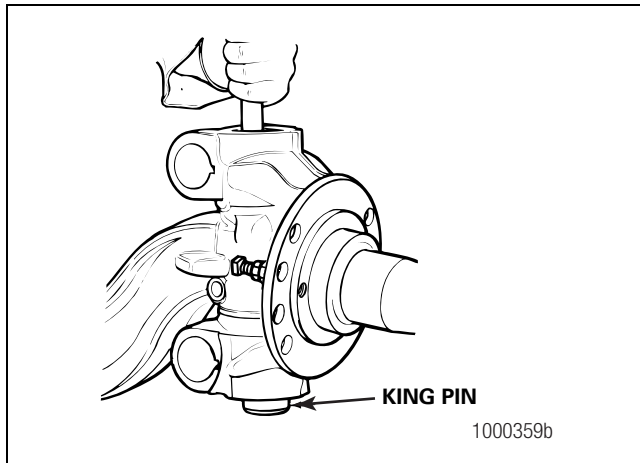

Figure 4.18
- A. Use a brass drift and a hammer to remove the king pins from the knuckle. Figure 4.18.